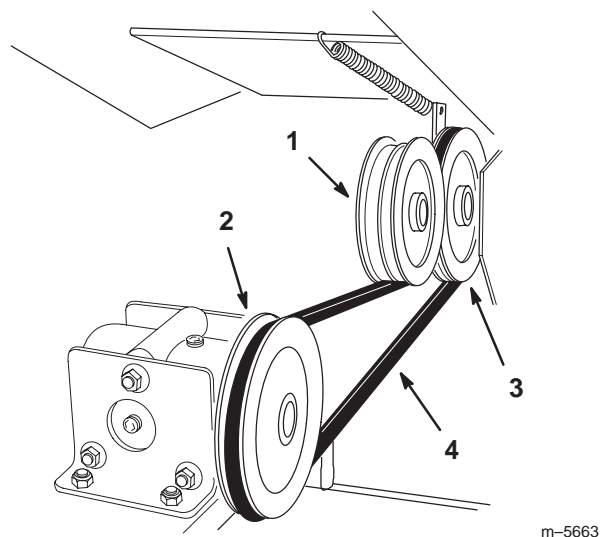

Figure 30
2. Hold the idler pulley up and install the new drive belt onto the traction unit output pulley and gearbox input pulley (Fig. 30).
3. Release the idler pulley to allow it to spring back on top of the drive belt (Fig. 30).